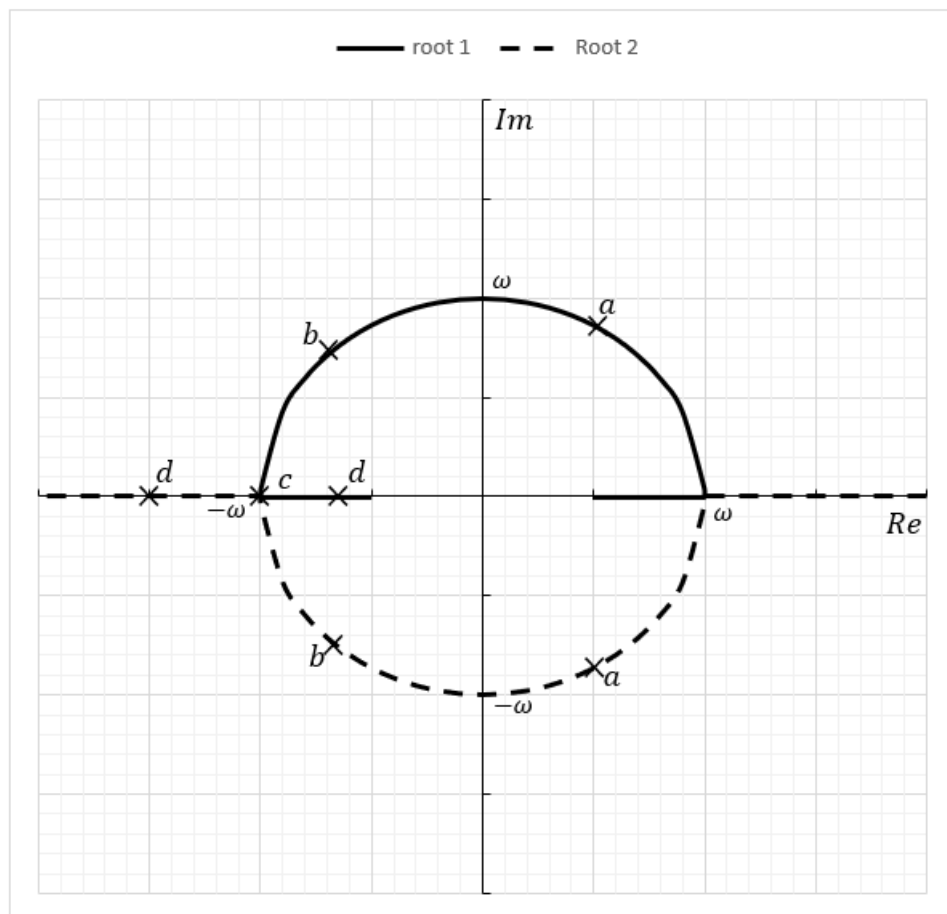

Figure Q2.3
- (g) Figure Q2.3 shows the root locus for a 2nd order system with an overall transfer function given by: